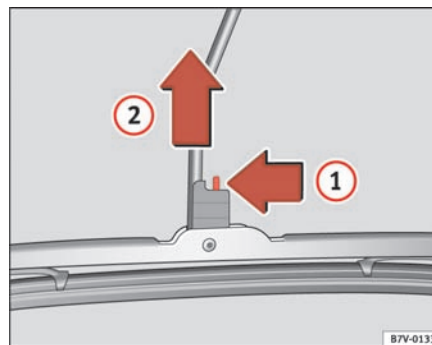

Fig. 148 Changing a rear wiper blade
- Release the wiper blade as shown by arrow ⇒ fig. 148 ① and, at the same time, pull the wiper blade as shown by arrow ②.
- Now take off the wiper blade from the wiper arm in the opposite direction to arrow ②. ▶